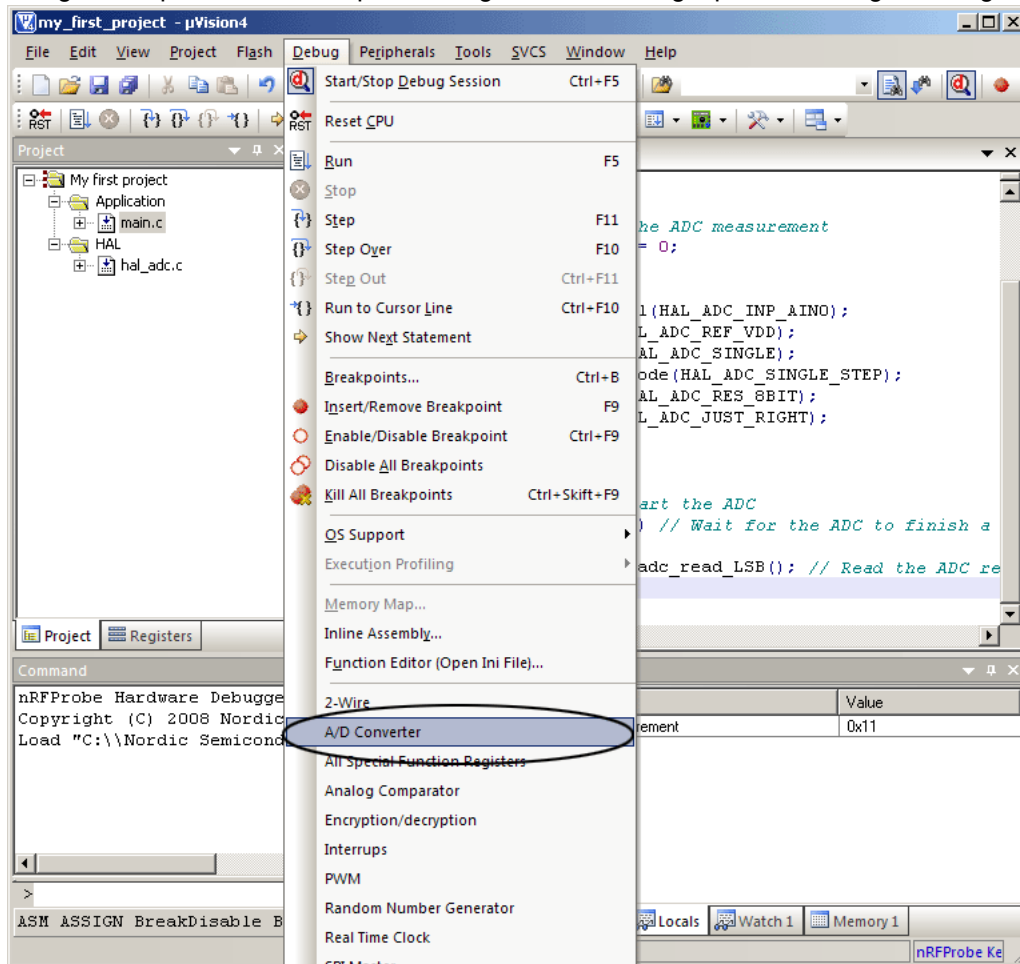

Figure 38. Debugging the A/D converter hardware module directly
- You can also view the hardware module embedded in the nRF24LE1. See encircled area in Figure 38. for the relevant menu selection.